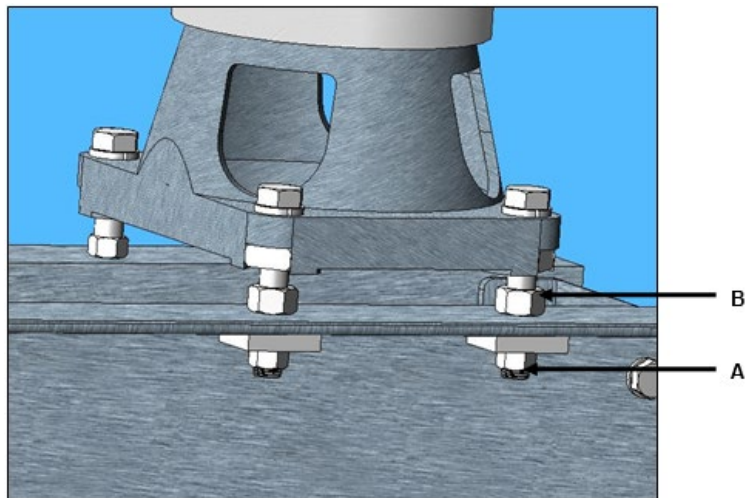
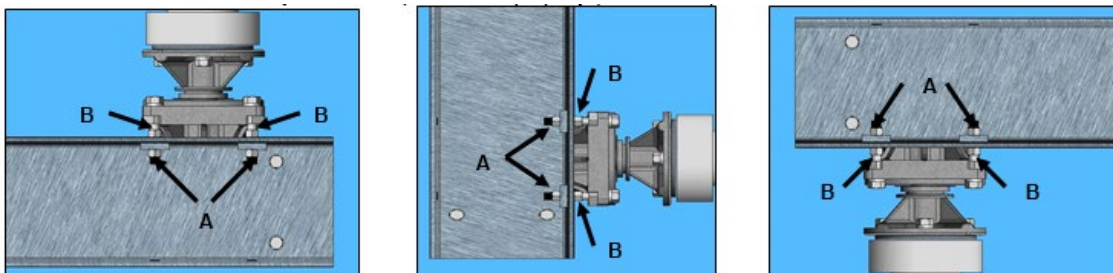

Figure 3: Insulator Stack Alignment
Figure 12: Insulator Stack Adjustment for Various Mounting Positions
- 1.6.1. Always be sure to tighten the bottom hex nuts securely after jackscrew adjustments are complete (**Figure 3**).
- 4.10.1. Refer to **Figure 3** and **Figure 12**. Adjust both "A" nuts and "B" nuts equally to correct any misalignment.